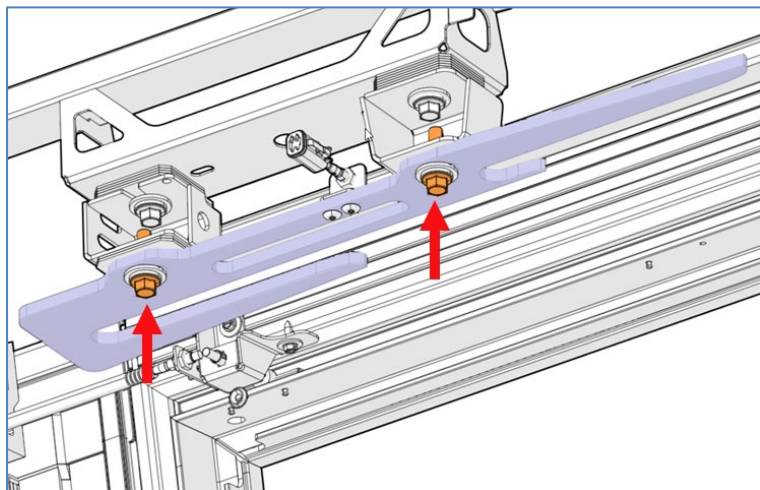

Figure 48
2. Locate the roller guide (a.k.a. fork) shown on Figure 48.
3. Tighten the bolts but not to a specific torque at this moment (Figure 48).